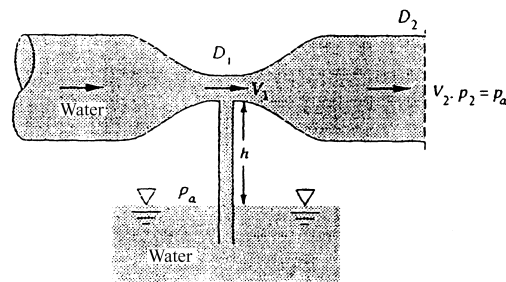

Fig. P3.161
3.161 A necked-down section in a pipe flow, called a *venturi*, develops a low throat pressure which can aspirate fluid upward from a reservoir, as in Fig. P3.161. Using Bernoulli's equation with no losses, derive an expression for the velocity V_1 which is just sufficient to bring reservoir fluid into the throat.